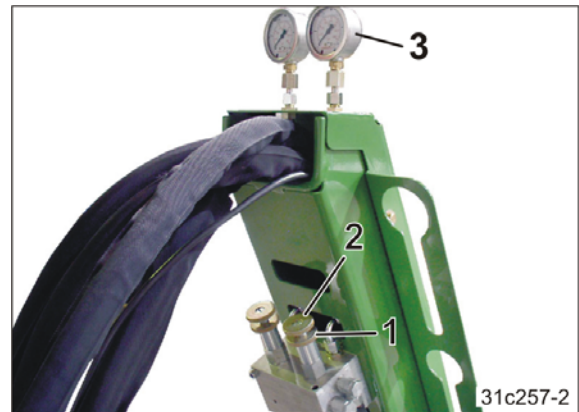

Fig. 168
1. Unscrew the lock nut (Fig. 168/1).
2. Adjust the coulter pressure by turning the valve screw (Fig. 168/2).
- Read of the pressure at the pressure gauge (Fig. 168/3).